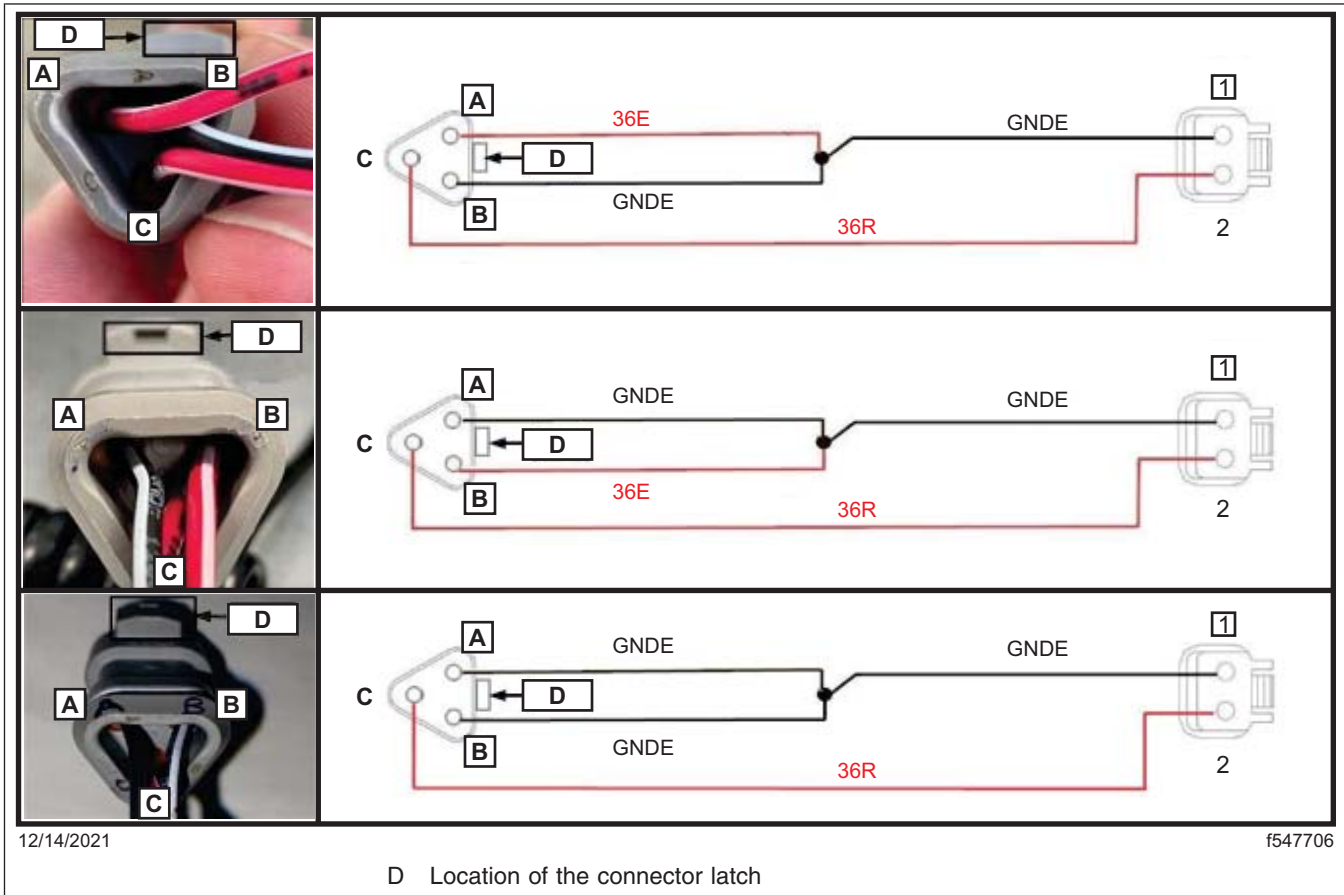
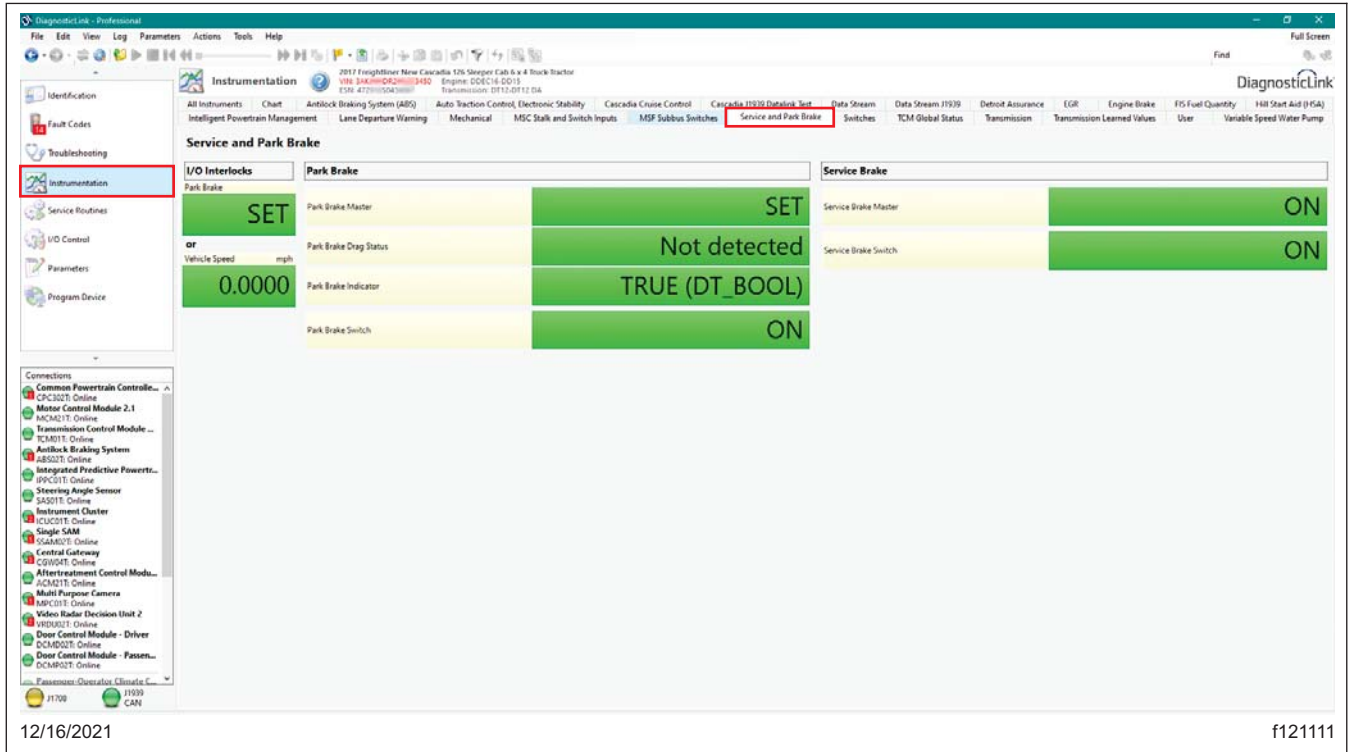
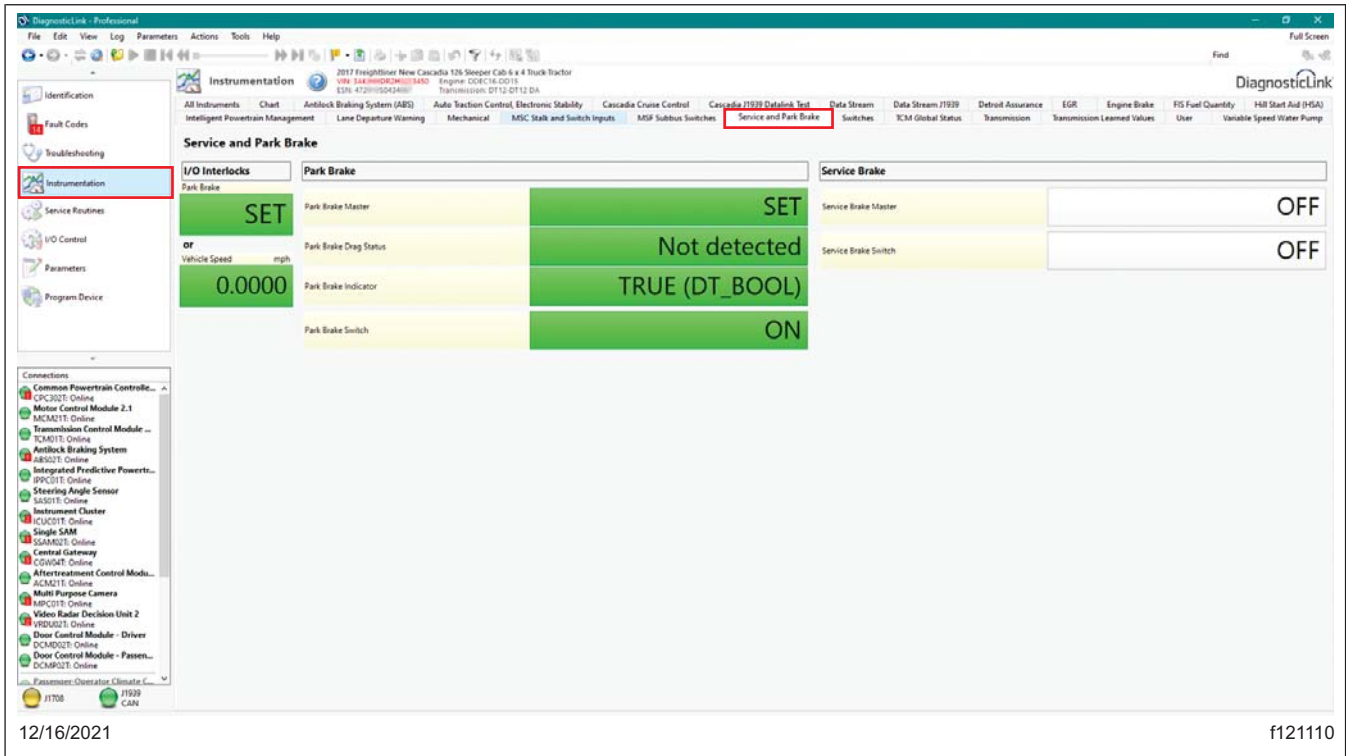

Fig. 5, Approved Jumper Harness
Fig. 6, Service Brake Panel Status When the Brake Pedal is Pressed
Fig. 7, Service and Park Brake Panel Status in Normal State
- 5.2 Install the jumper harness as shown in the **Fig. 3** onto the dash connector shown in the **Fig. 4** and then connect it to the new 2-pin brake light pressure switch. Due to jumper harness variation, see **Fig. 5** for details of approved jumper harness variations. Vehicles in FL863A go to sub-step 5.4.
- 5.4 Open the DiagnosticLink and connect to the vehicle, turn vehicle ignition switch on, allow time for DiagnosticLink to connect with sSAM, open the "Instrumentation" tab, locate and open the "Service and Park Brake" panel. See **Fig. 7**.
- 5.5 With a minimum vehicle system air pressure of 60 psi, check the vehicle brake light function with DiagnosticLink while pressing & releasing the vehicle brake foot pedal and if equipped, pulling the vehicle trailer hand brake valve. The "Service Brake" panel status should show both "OFF" in normal state when brakes are not applied, see **Fig. 7** and show as "ON" when the brake foot pedal is pressed or if equipped, when the trailer hand valve is pulled. See **Fig. 6**. A slight delay between status of "OFF" and "ON" is normal. If the brake light function is not correct, check that jumper harness matches the acceptable variations on **Fig. 5** and is fully connected to dash harness and to brake pressure switch.